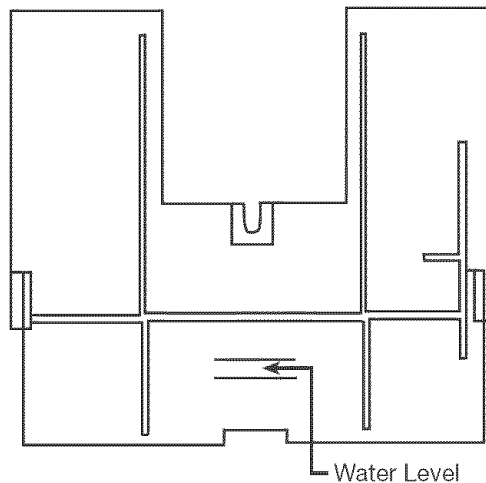

Fig. 25
2. Allow Reservoir to fill and check that water level is correct. The water level should be between the two marks on the front side of the reservoir divider (Fig 25). If the water level is not between the two marks a float adjustment may be required. Refer to the Adjusting Float instructions found in the Maintenance Section on Page 13 to adjust float.